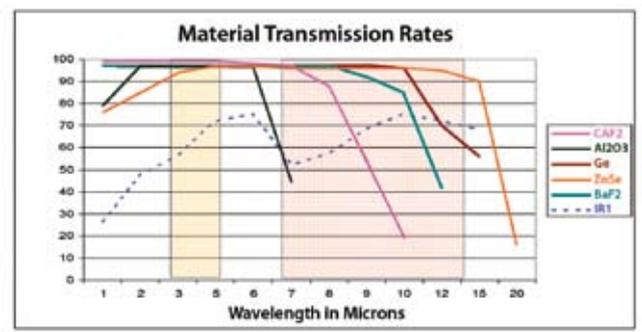

FIG 1 - Transmission Rates of IR Window Materials
The graph in Fig 1 demonstrates the transmission rates of the chosen materials and where they fall into the Longwave (LW) and Shortwave (SW) infrared wavelengths. You can see that it is imperative to consider the type of equipment being used, as some materials will be unsuitable for use with a LW camera (Sapphire Al2O3) and SW cameras (Germanium Ge). Some materials are suitable for use with both LW and SW cameras